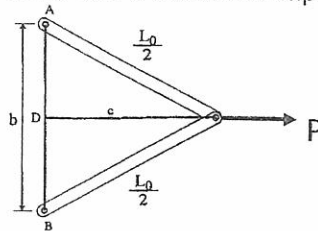

Figure 1
1. A bungee cord that behaves linearly elastically has an unstressed length $L_0 = 760\text{mm}$ and a stiffness $k = 140\text{ N/m}$. The cord is attached to two pegs, distance $b = 380\text{ mm}$ apart, and pulled at its midpoint by a force $P = 80\text{ N}$ (see figure 1). (20%)